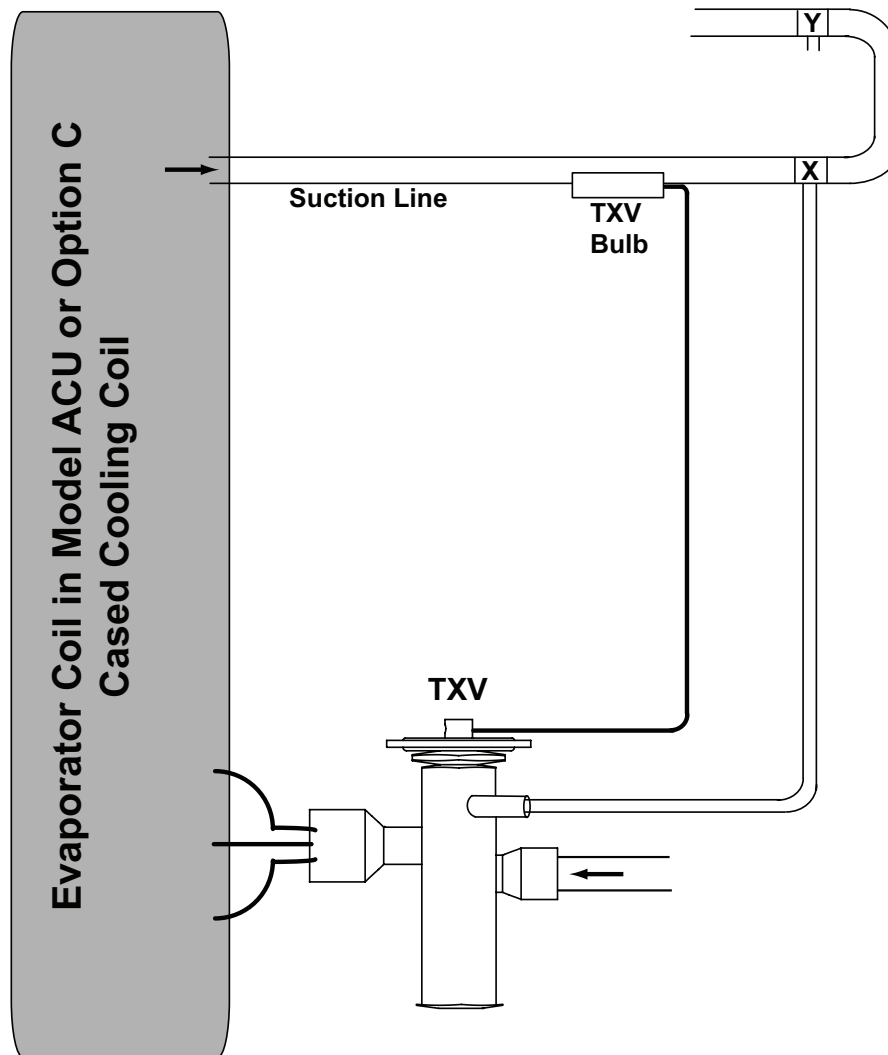

Figure 4. Equalizer Line Installation (Applies to Both Circuits)
- At short distance downstream from bulb, connect one end of field-supplied equalizer tubing to suction line—preferably at location X (see Figure 4). If location X is not possible, location Y is acceptable as long as pressure is essentially same as at X. Connect other end of field-supplied equalizer tubing to 1/4-inch ODF fitting on TXV (see Figure 4).